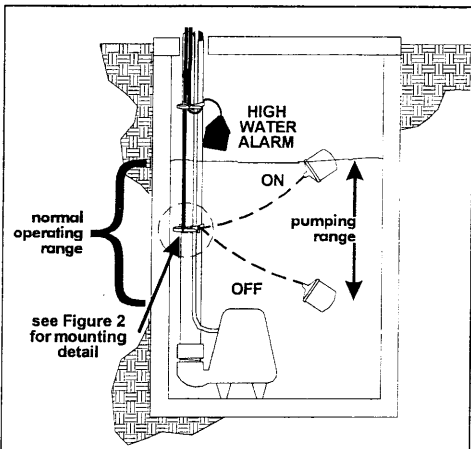

FIGURE 1-SJE wide angle* float system
2. Determine your normal operating level as seen in Figure 1 on next page.